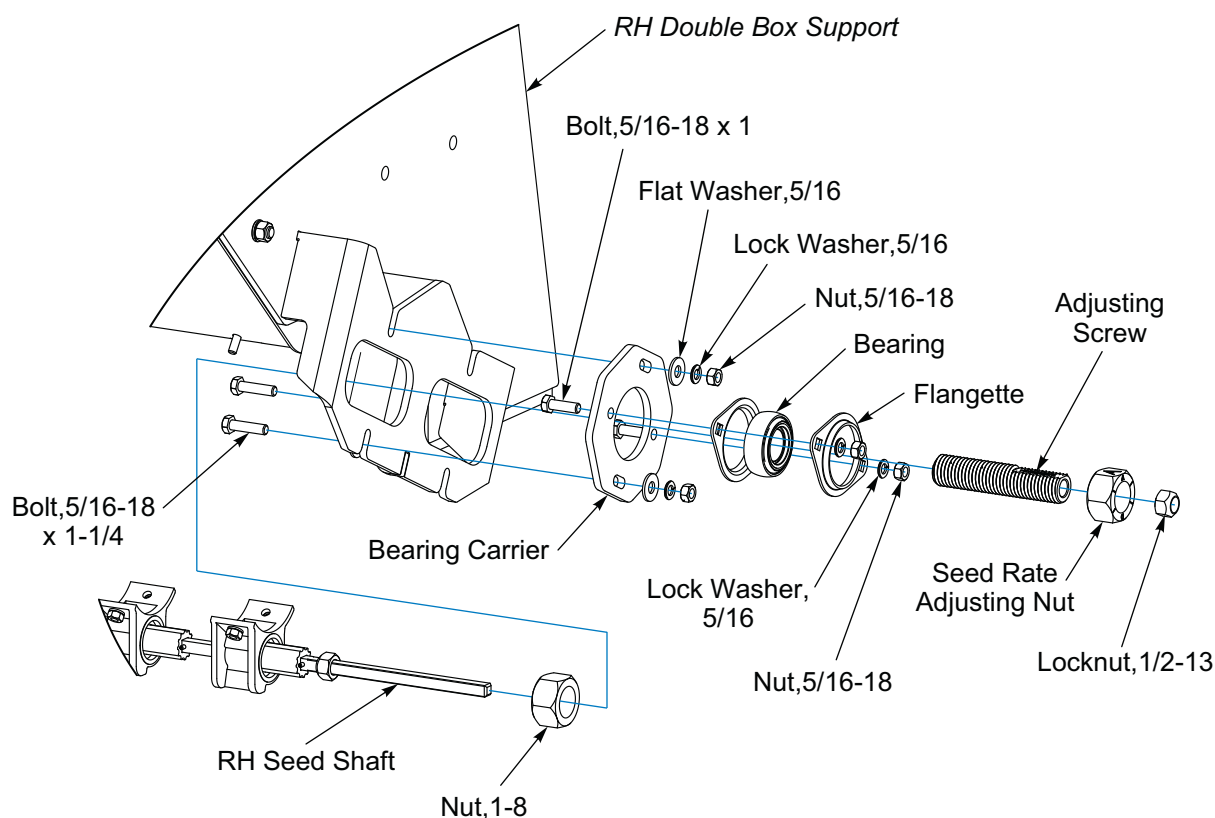

Figure 2-58: Rear Box RH End Assembly
24. Install Bearing Carrier onto RH Double Box Support with 5/16-18 x 1-1/4 Bolts, Flat Washers, Lock Washers and Nuts. **See Figure 2-58.**